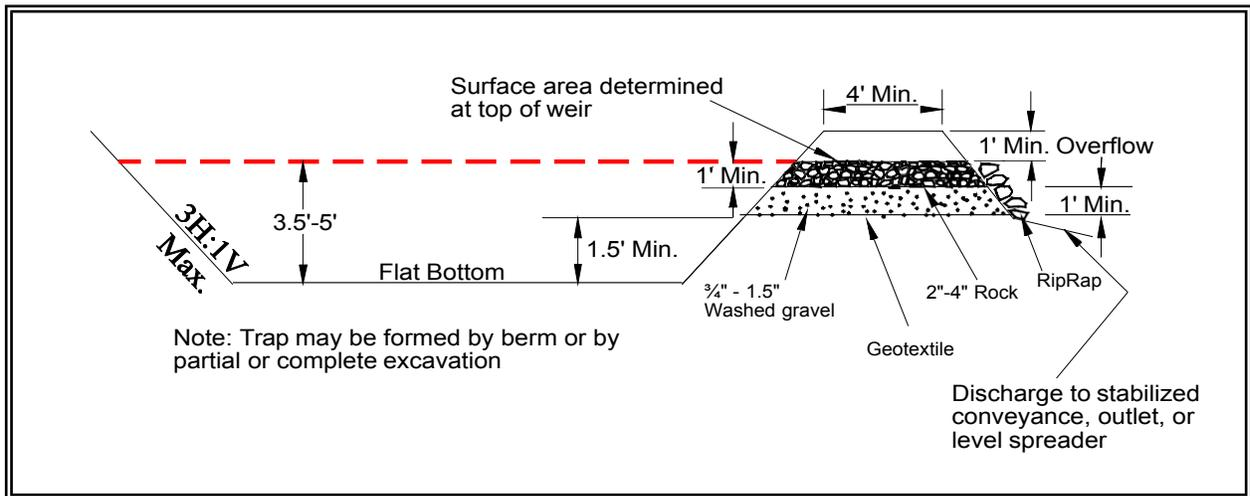

Figure 4.2.16 – Cross Section of Sediment Trap
- See Figures 4.2.16 and 4.2.17 for details.
- To determine the sediment trap geometry, first calculate the design surface area (SA) of the trap, measured at the invert of the weir. Use the following equation: